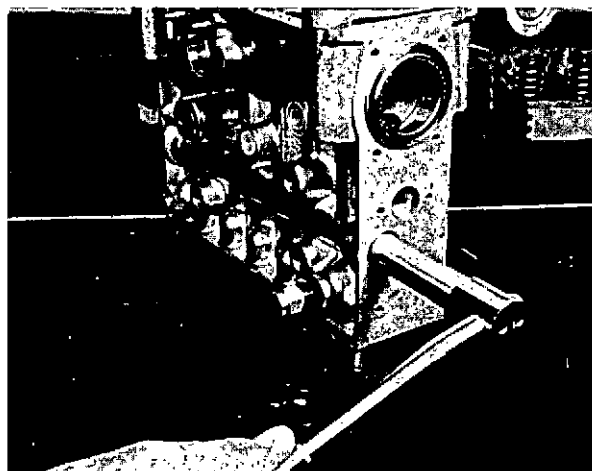

Fig. 13 Unscrewing threaded bush.
14. Using pin spanner 1 687 950 075, unscrew the threaded bush (fig. 13) and pull out the control rack and its dowel pin. Remove the control rack guide at the drive end by means of a wire hook and then use a long drift to tap out the guide at the governor end.